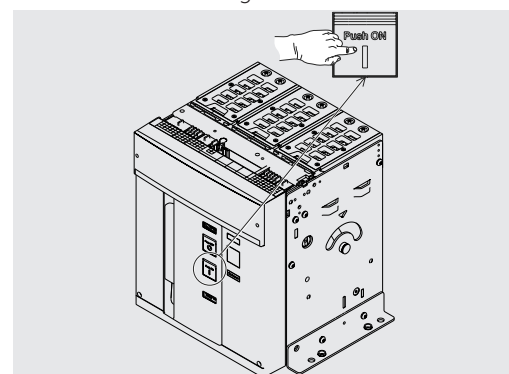

Figure 28
4. Closing - Press the closing pushbutton "I - Push ON" as indicated in Figure 28.